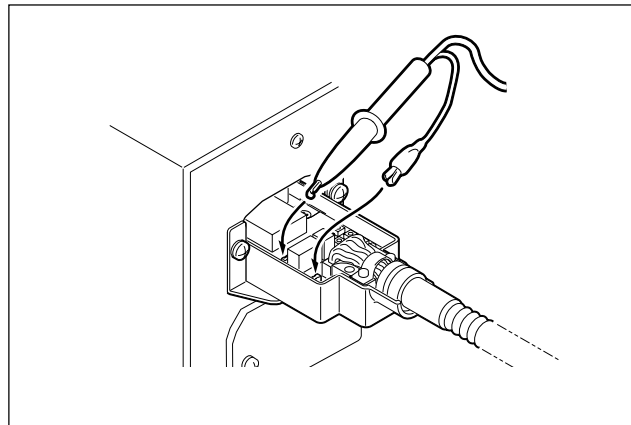

Fig. 4-5
- ① Insert the preamplifier into the counter and turn on the counter.
- ② Connect an oscilloscope probe to the PM terminal on the preamplifier board and an earth clip to the connector receptacle screw. (Fig. 4-5)